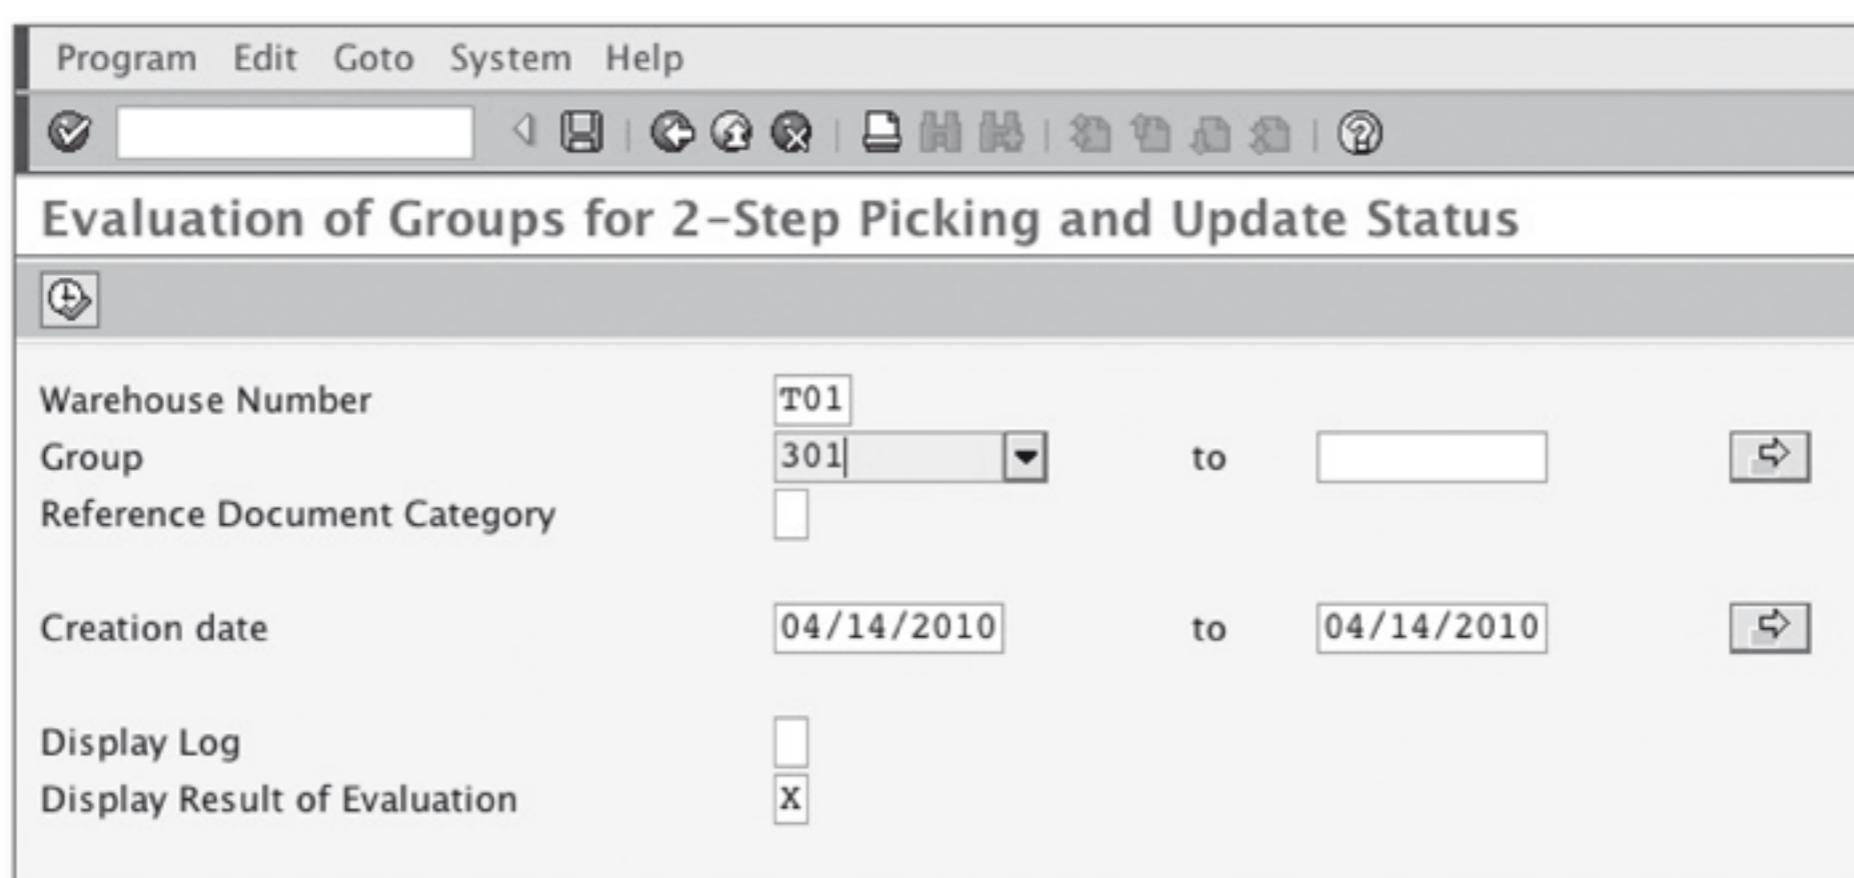

Figure 4.23 Evaluation Groups for 2-Step Picking and Update Status Screen
4. Next, go to the two-step picking monitor by choosing LOGISTICS • SALES AND DISTRIBUTION • SHIPPING AND TRANSPORTATION • PICKING • WAVE PICK • TWO-STEP PICKING • ANALYSIS, which brings you to the screen shown in Figure 4.23.